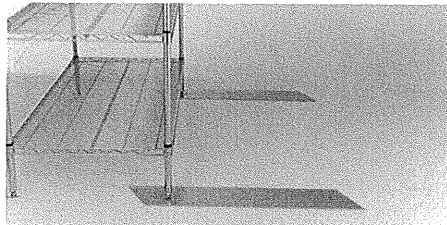

Fig. 1
3. Without peeling the backing from the adhesive tape, lay the pads on the floor. Start at a stationary end unit and slide a pad under the unit's post foot plate. The pad should extend past the foot by approximately 6 inches (15cm). Also the foot plate should be centered on the width of the pad. Repeat for the other side of the system (Fig. 1). (Super Erecta Unit shown)